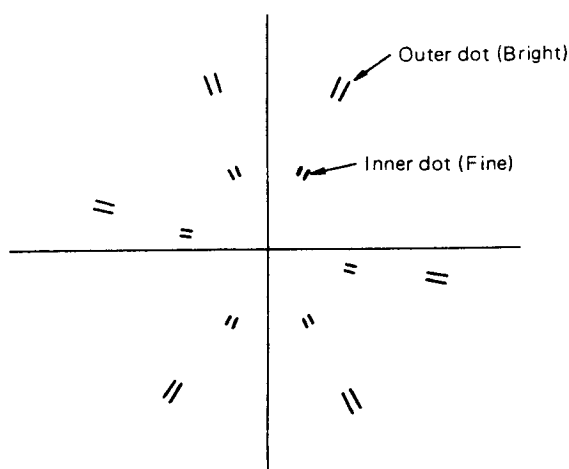
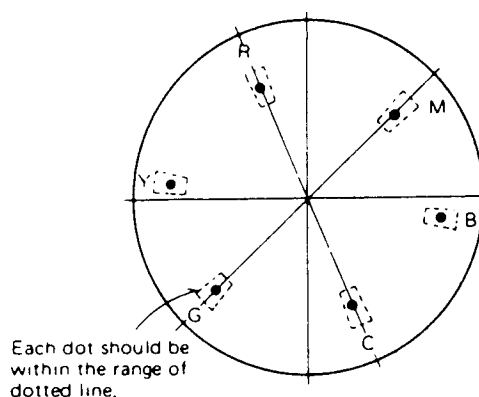

Fig. 6 Vector Pattern of Colour Bar Signal
Fig. 7 Vector Pattern of Colour Bar Signal
- (4) Set the oscilloscope to the X-Y mode and connect the pin terminal L2 (B-Y OUT) and pin terminal L3 (R-Y OUT) on PCB-MAIN to the horizontal and vertical inputs of the oscilloscope respectively to display a vector pattern on the screen. (Fig. 6)
- (5) Observing the outermost dots which correspond to normal colour bar, adjust the LEVEL ADJ VR602 and TRANS-OUT T601 on PCB-MAIN alternately to almost coincide the double dot patterns equally for all colours on the scope.
- (6) Observing the inner dots, adjust the coil L605 and LEVEL ADJ VR602 on PCB-MAIN alternately so that the double dots are converged. The converged points are located in about half way on the lines connecting the centre of the vector and each outer dots. (Fig. 7)
- (7) Repeat steps (6) and (7) above so that the outer and inner dots are converged almost uniformly. Remove the 10pF capacitor from across pins 4 and 5 of DL601 on PCB-MAIN.